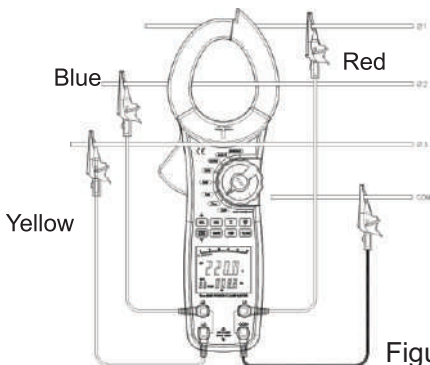

Figure 4
8.2. AC Voltage (main display) + Frequency (secondary display) Measurement (see figure 4)